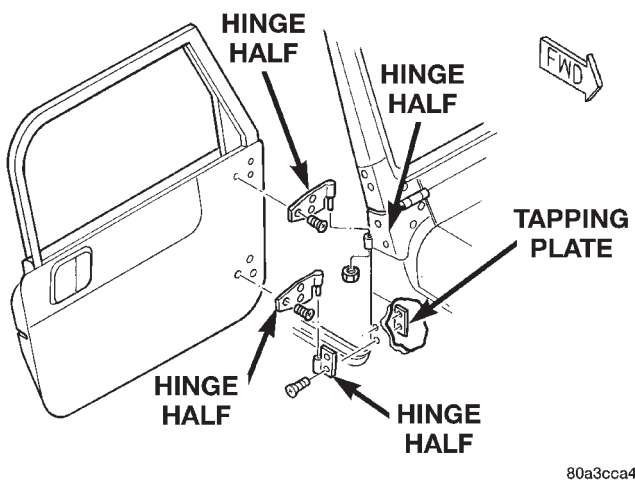

Fig. 19 Full Door Hinge
(2) Mark the outline of the existing hinge on the body and the door with a wax pencil for installation alignment reference.
(3) Remove the nut from the upper hinge pin (Fig. 19).